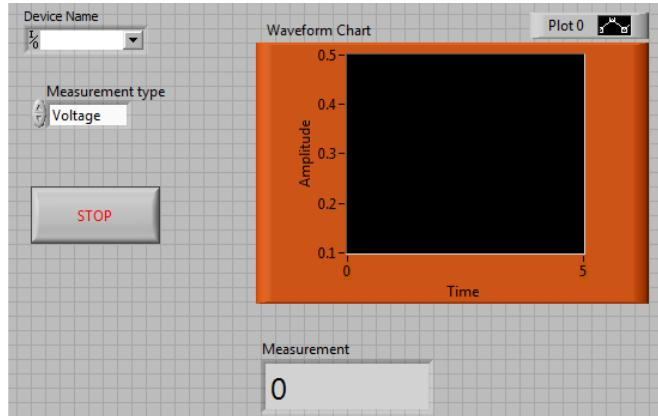

Figure 3.3: Front Panel
13. On front panel, use Quick Drop to create an Enum (an enumerated list). Label as “Measurement Type” (Figure 3.3, 3.4)